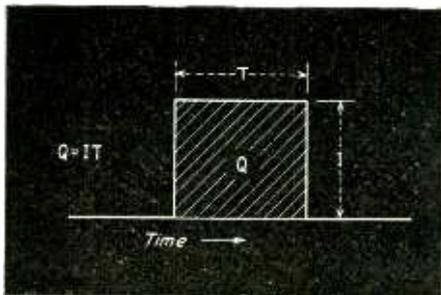

Fig. 2—Basic relationship of charge, time and current, on which ballistic galvanometer measurements are based
$$Q = IT \quad (\text{See Fig. 2}) \quad (2)$$